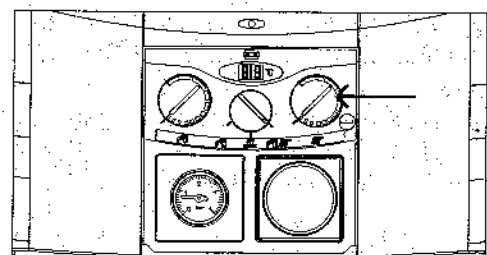

Fig. 5
3.3. Adjust the central heating temperature control knob (3) to suit the weather; turning clockwise to increase setting; anticlockwise to decrease setting (Fig.5). When the appliance is being used in the central heating mode the temperature indicator (3) indicates the approximate temperature of the central heating water leaving the appliance.